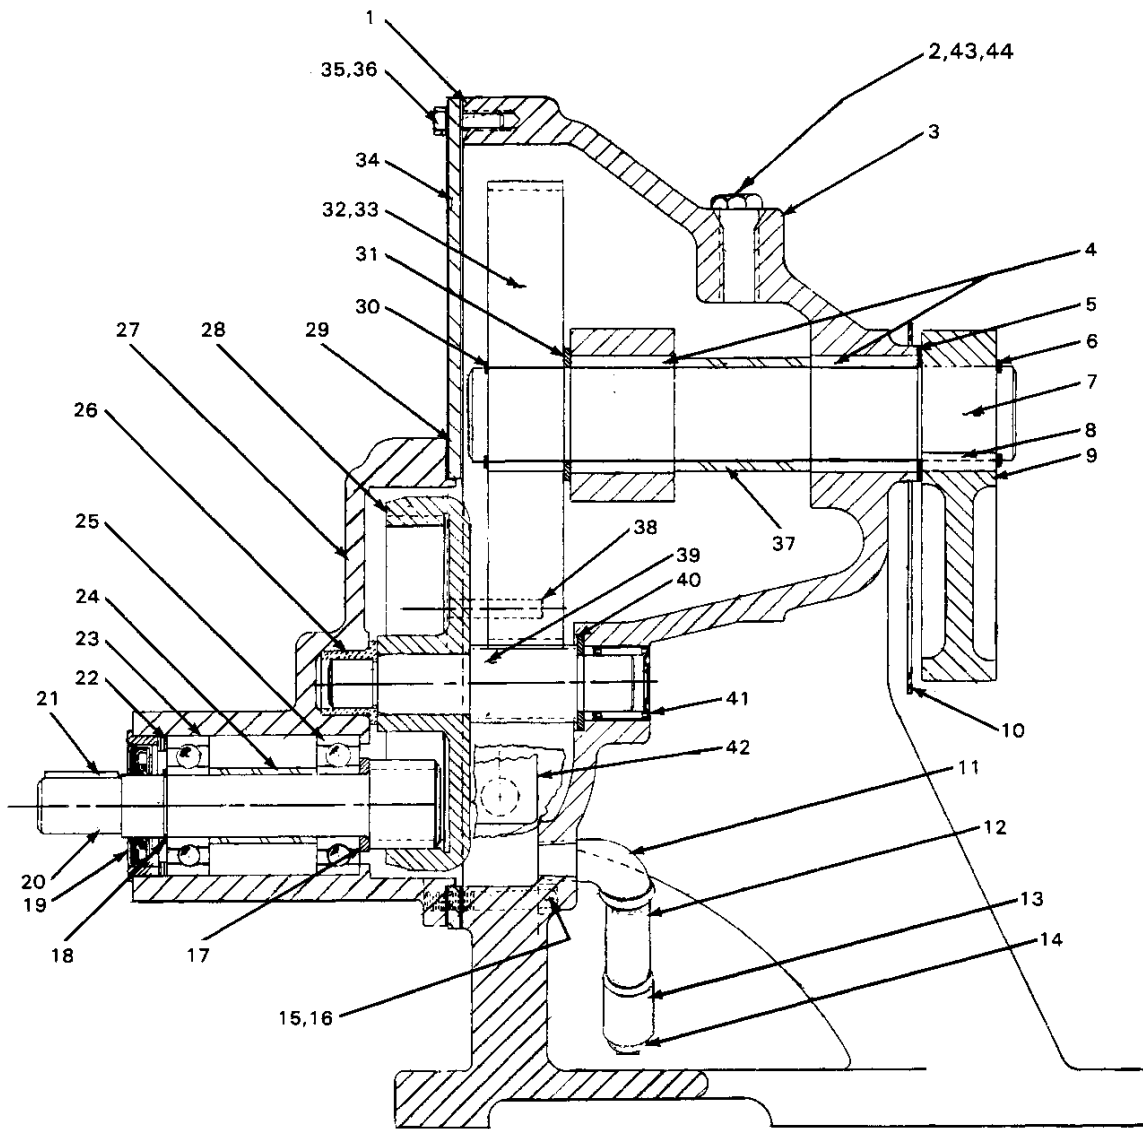

Figure 4. 8981 Gearbox Assembly
**Gear Box Disassembly (See figure 4)**
#### Gear Box Reassembly (See figure 4)
Install the drive shaft washers. Inspect the oil seal assembly, and replace as necessary. Install the oil seal assembly with the lip positioned as shown in figure 4.
**Gear Box Assembly (See figure 4)**